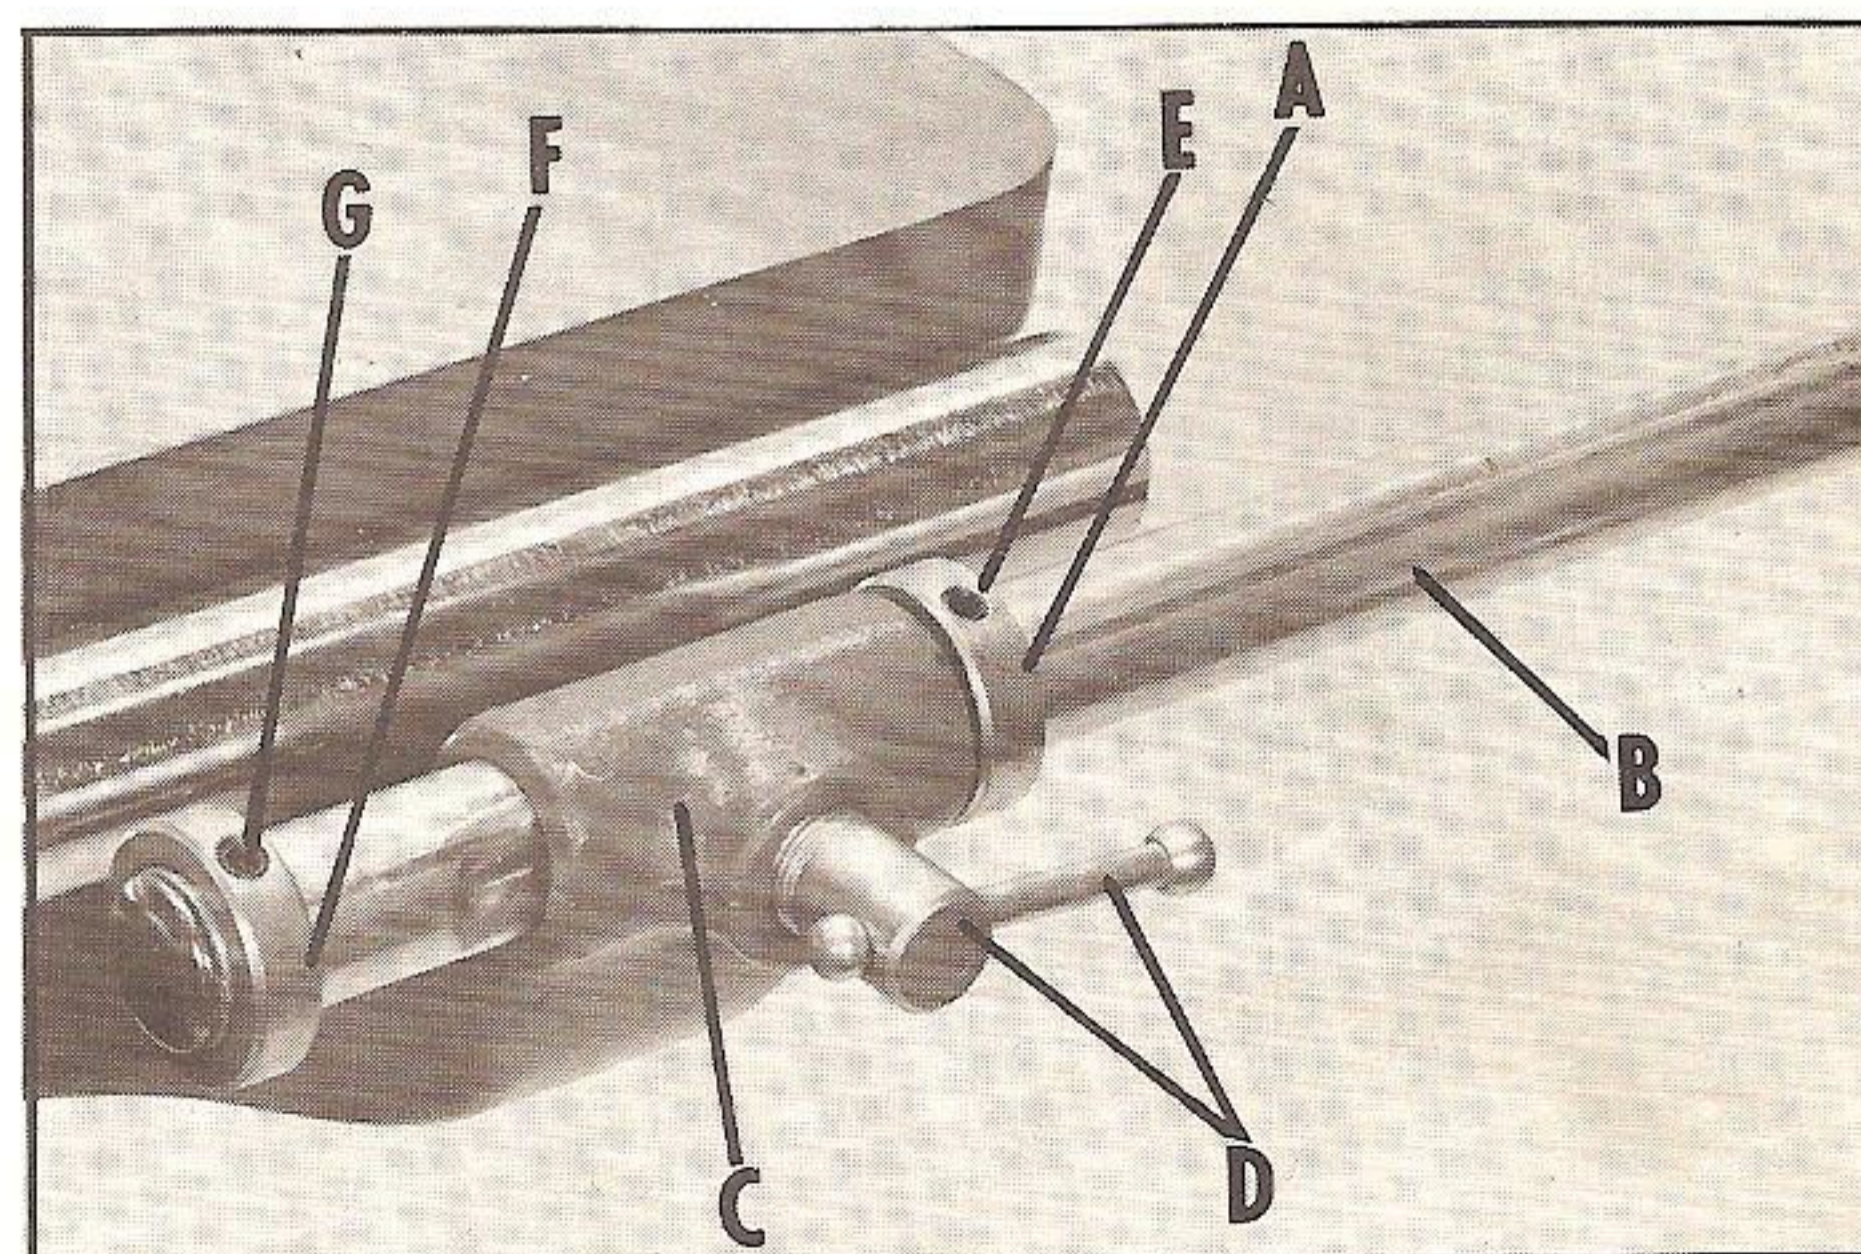

Fig. 16
5. Place collar (A) Fig. 16, on the support arm (B) and assemble support arm to the bracket (C). Tighten clamp screw (D) into the flat in the support arm (B). Loosen clamp screw (D) 1/4 turn, move the support arm to the right (as viewed from the front of saw) as far as it will go and tighten clamp screw (D). Place collar (A) against the bracket (C) and tighten set screw (E). Loosen nut (D) 1/4 turn, move the support arm (B) to the left (as viewed from the front of saw) as far as it will go, and tighten clamp screw (D). Place the collar (F) against the bracket (C) and tighten set screw (G).